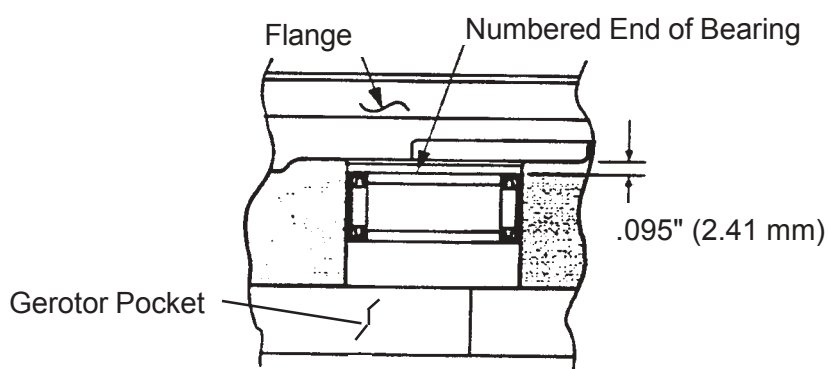

FIGURE 30
(See Figure 30 & 31)
1. **New Bearing or Bushing in Adapter Assembly.** If necessary Press New Bearing or Bushing into Adapter Assembly. The Bearing must be installed to dimensions as listed in Figure 30. The Numbered end MUST be installed Outward toward Flange as Shown in Figure 30